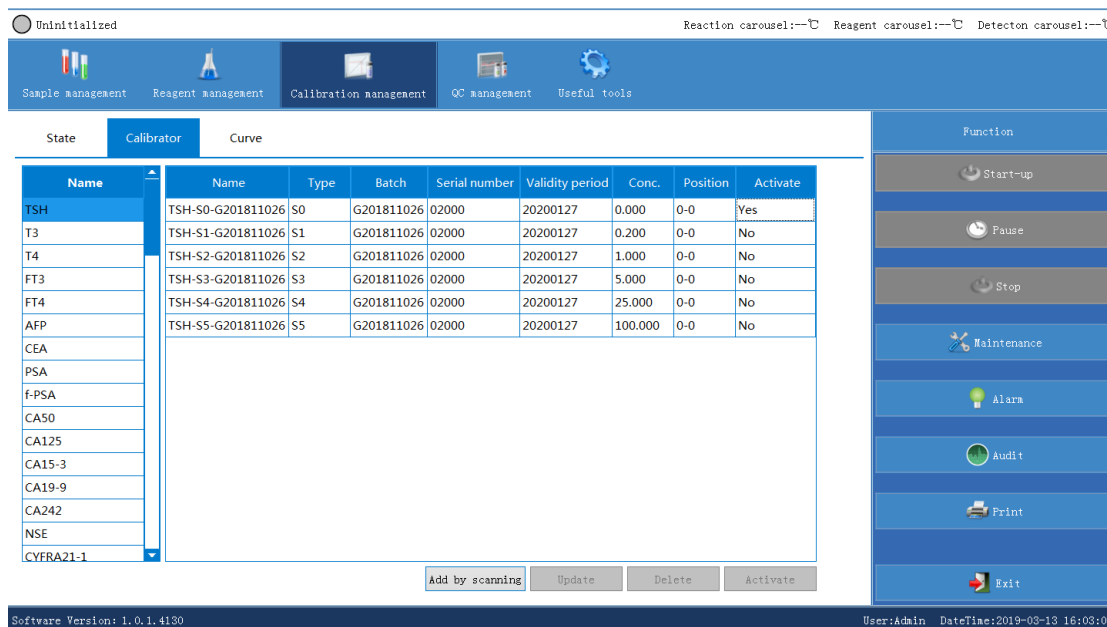

Figure. 8.5.5 Activate calibrator
- The **Activate** status will display **Yes**, as shown in Figure 8.5.5. This means the calibrator is successfully activated.